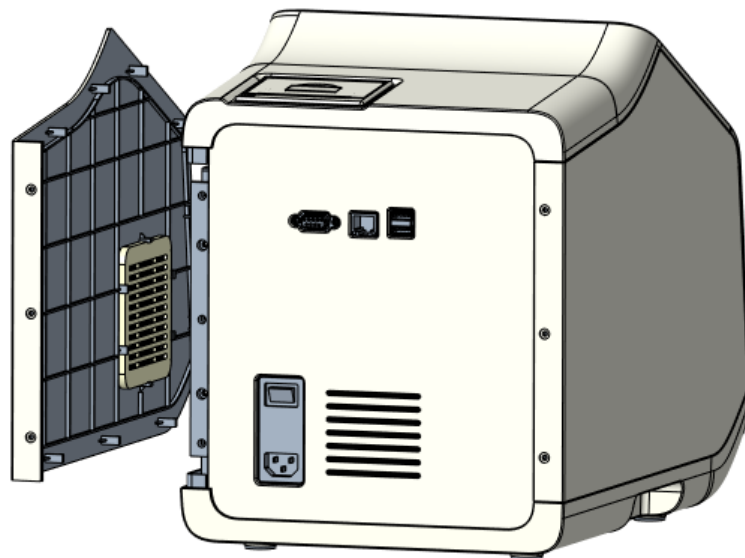

Fig. 7.1 Remove the Side Panel
2. Remove the three screws on the back panel as shown in Figure 7.1 to remove the side panel that has the air inlet.